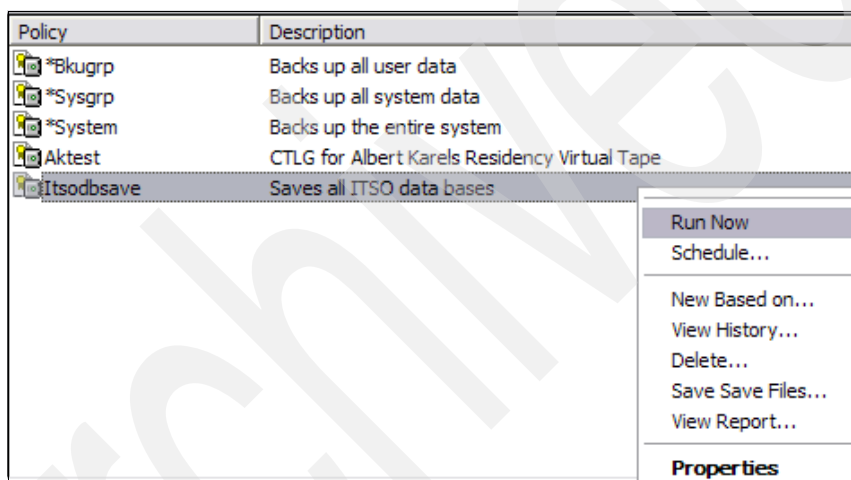

Figure 7-53 BRMS running the backup, Run Now selected
2. Right-click **Backup, Recovery and Media Services** and right-click your policy (in our case, **Itsodbsave**). Then select **Run Now**, as shown in Figure 7-53.